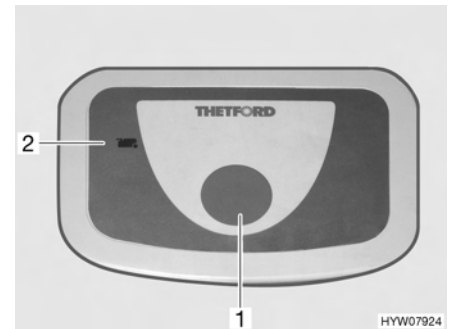

Fig. 94 Flush button/indicator lamp Thetford toilet
- For flushing, press the blue flush button (Fig. 94,1).
The indicator lamp (Fig. 94,2) goes on whenever the sewage tank has to be emptied.